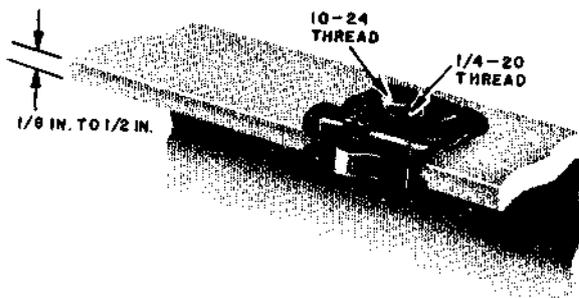

Fig. 9 – B Beam Clip, Top View
- Two holes are provided on one side of clip (Fig. 9). One hole accepts a 10-24 machine thread and the other a 1/4-20 machine thread. Clip may be equipped with B or M bridle ring, backboard, cable terminal box, etc (Fig. 9, 10, and 11).